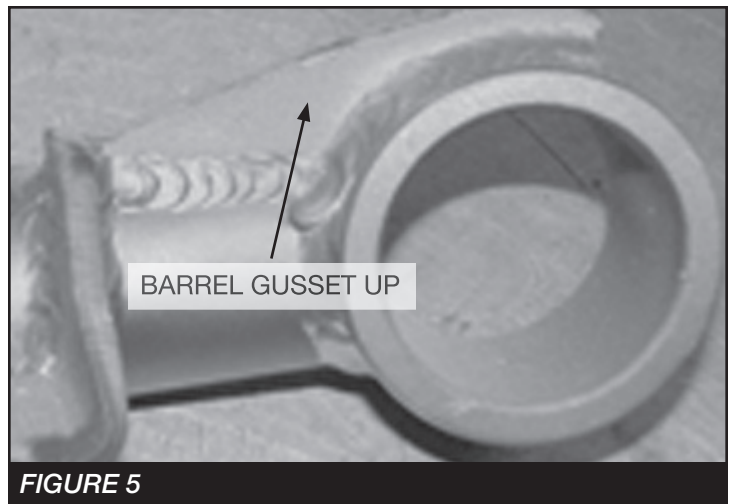

FIGURE 5
7. Install the new Fabtech upper control arm in the factory upper control arm pockets using the factory hardware at the previously marked alignment cam location. When installing the arm on the truck, make sure the barrel gussets are facing up. Torque to 100 ft-lbs. **SEE FIGURE 5**